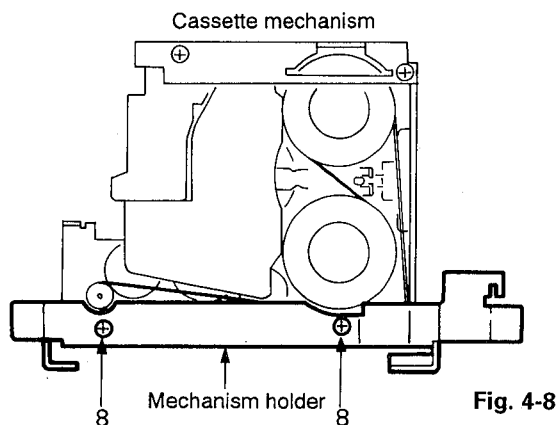
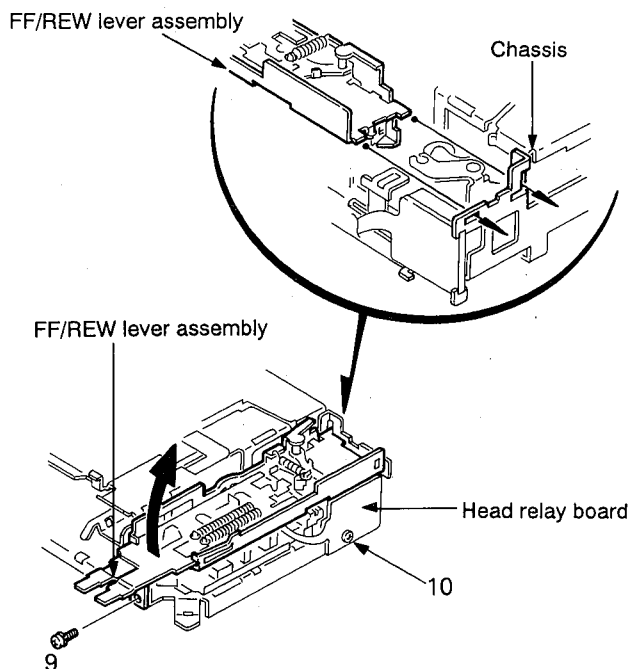

Fig. 4-8
Fig. 4-9
■ FF/REW lever assembly (Figs. 4-8, 4-9)
2. Remove two screws (8) retaining the mechanism holder from the cassette mechanism assembly.
3. Remove one screw (9) retaining the FF/REW lever assembly from the cassette mechanism assembly. (See Fig. 4-9.)
4. Lift the FF/REW lever assembly in the arrow direction as shown in Fig. 4-9.
5. Disengage the tip of the FF/REW lever from the cutout portions of the chassis. (See Fig. 4-9.)
■ PB head (Figs. 4-9, 4-10)
4. Remove one screw (10) retaining the head relay board from the cassette mechanism assembly.
5. Remove two screws (11) retaining the PB head. When re-assembling, make sure to do it in the order from A, B, C to D and then to adjust the azimuth and height of the head.